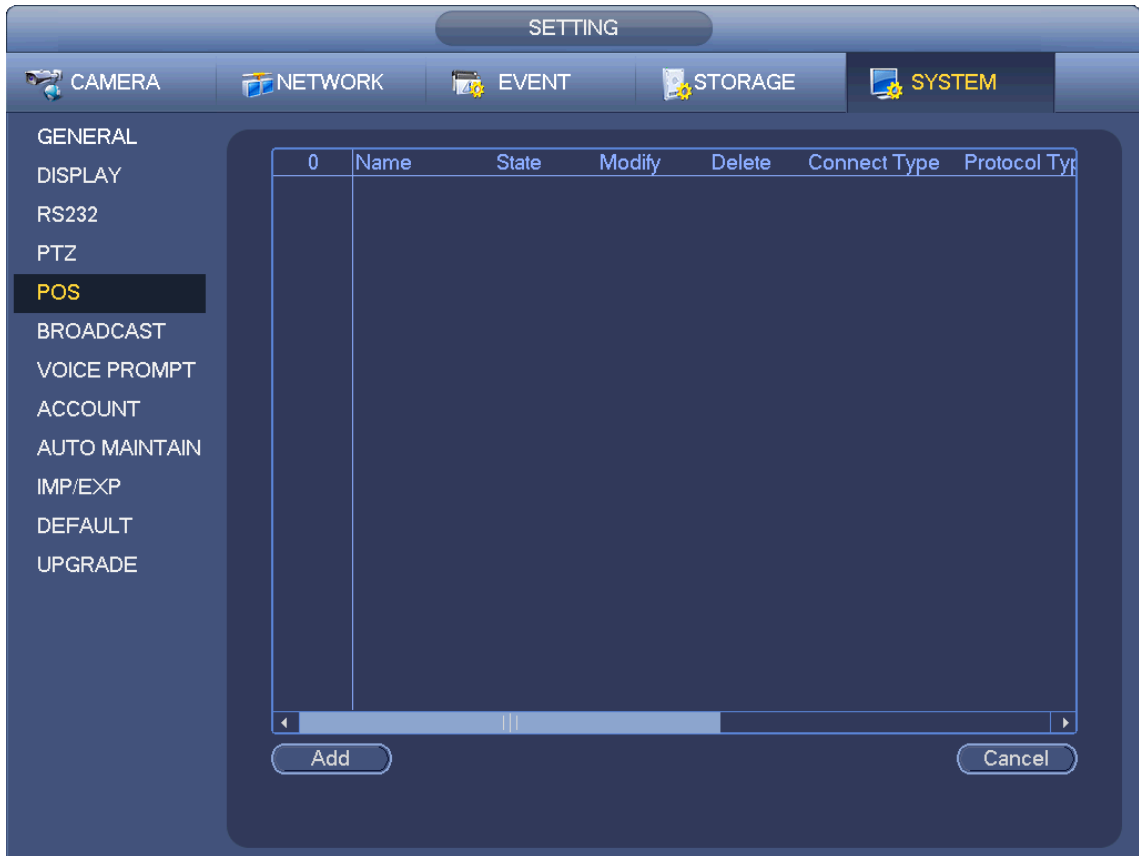

Figure 4-185
- ✧ In Figure 4-184. Click button  after one date or a holiday, you can see an interface shown as in Figure 4-185. There are four record types: regular, motion detection (MD), Alarm, MD & alarm.